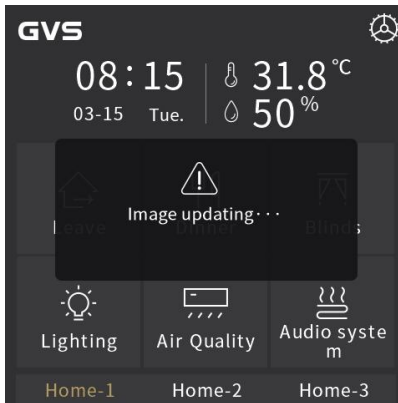
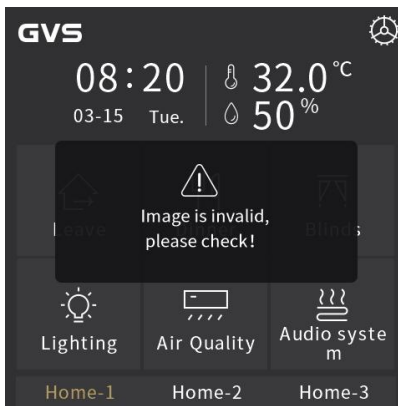
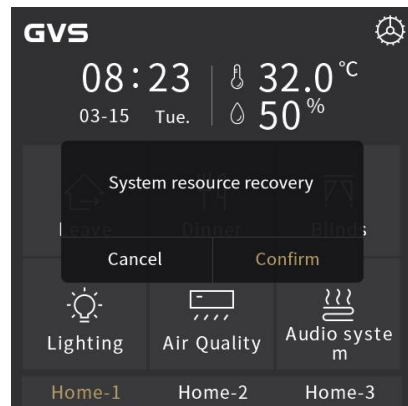

Fig.5.2
Fig.5.4
Fig.5.5
② Update pictures: when there is a folder named "Pageicon" in the Micro SD card, and there is a picture in accordance with valid name and format, then it will update and store (even if the picture is the same as the last saved).
3. Click "Confirm" to update picture; after upgrade, there will pop up a window of the result, if upgrade is successful, reboot the device manually to apply the new page icons to the system; if upgrade is failed, click any area outside the window to return to the page, as shown in Fig.5.2, Fig.5.3, Fig.5.4 and Fig.5.5.
Note: when upgrading, if the single picture is larger than the remaining storage space of the device (the total size of the device picture storage disc is about 15 MB), the remaining valid pictures shall be stopped updating, upgrade is failed as shown as Fig.5.4.